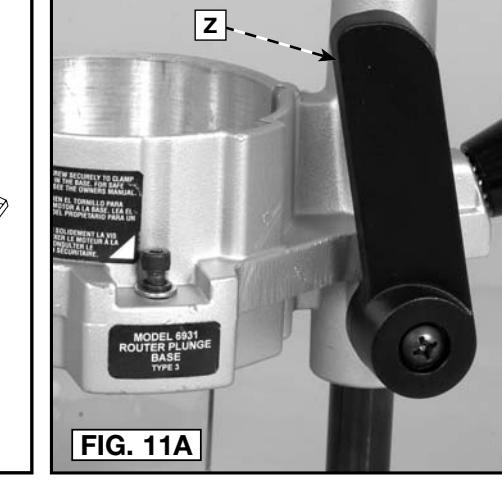

FIG. 11A
2. Release the plunge mechanism by pulling the locking lever (Z) Fig. 11A to the left. Lower the plunge mechanism until the router bit touches the work surface. Release the lever and push it to the right to lock the mechanism in this position.